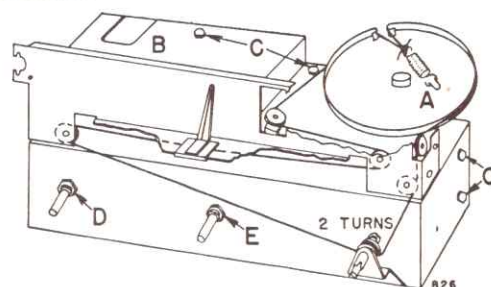

Figure 34. Radio Chassis With Front Housing Removed.
- Position the dial drum as shown in Figure 34. Unhook spring at "A", and while keeping tension on the dial cord, hook it to tab "B".
For alignment of IF slug adjustments, it will be necessary to disassemble the radio chassis from the escutcheon and housing and also remove the chassis cover and dial scale assembly. See figure 34. NOTE: AM and FM oscillator and antenna trimmers are accessible from top of chassis; disassembly of chassis cover and dial scale will generally not be required.